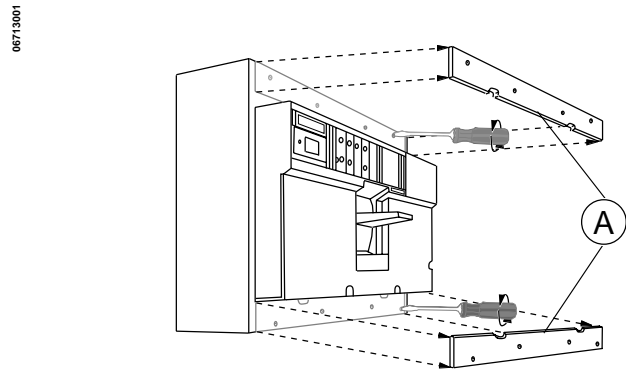

Figure 5: Installing Cable-connected Circuit Breaker
1. Remove lug covers (A, Fig. 5) by loosening the four lug cover screws on each lug cover and lifting off cover. Do not remove screws.